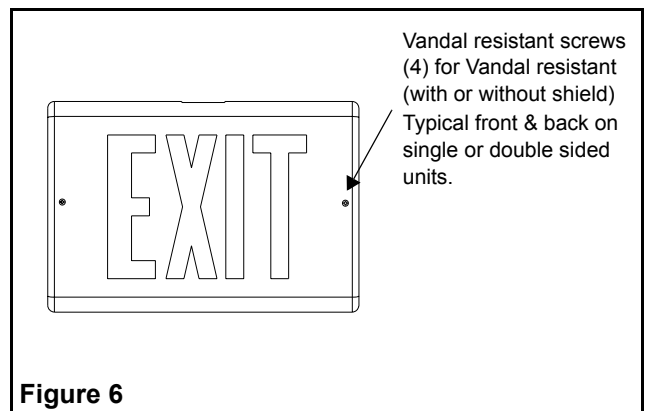

Figure 6
- 6. Units with vandal resistant options, refer to fig. 6.